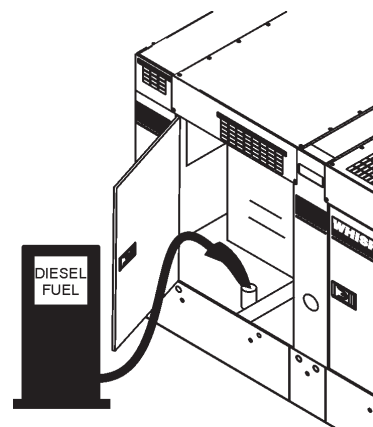

Figure 20. Fueling The Generator
2. Open cabinet doors on the “right side” of the generator (from the generator control panel position). Remove the fuel cap and fill the tank (Figure 20).